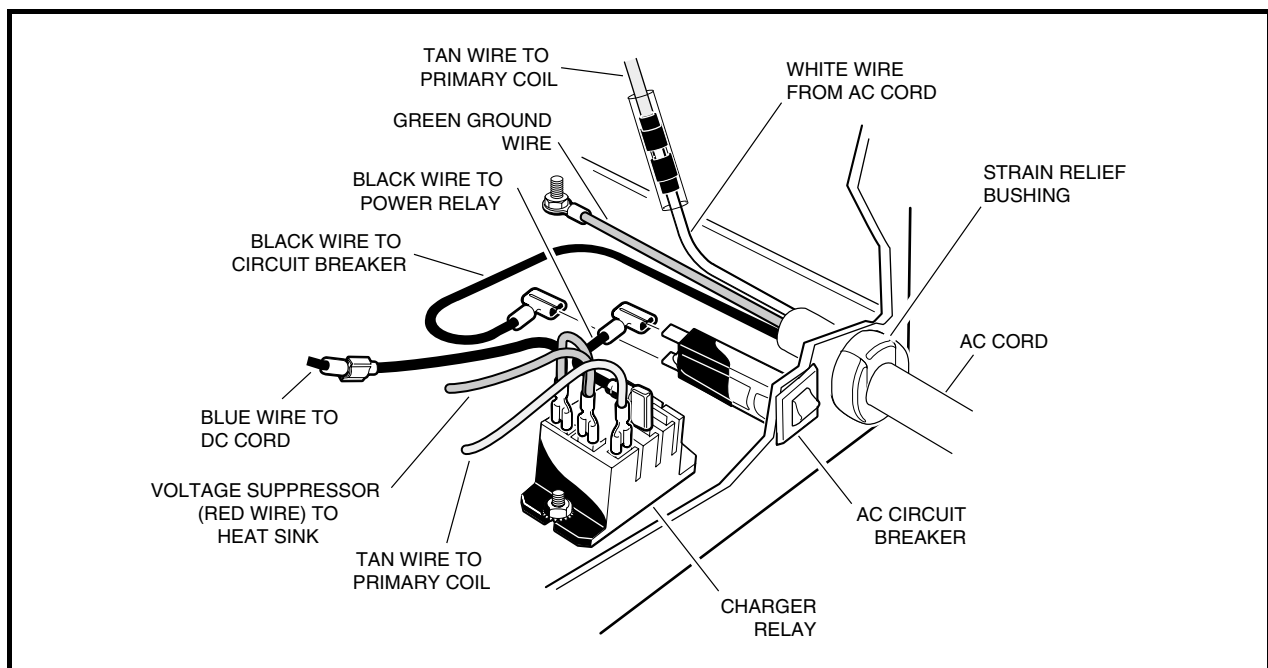

Figure 14-21 Charger Relay
3. Remove nut attaching voltage suppressor (18 gauge red wire) to heat sink (**Figure 14-21, Page 14-24**).
4. Disconnect blue wire to DC cord at quick disconnect terminal (**Figure 14-21, Page 14-24**).
5. Disconnect voltage suppressor from charger relay (**Figure 14-21, Page 14-24**).
- THE CHARGER RELAY BLADE CONNECTOR IS LOCATED OFF-CENTER WITHIN THE RELAY HOUSING. WHEN CONNECTING VOLTAGE SUPPRESSOR SLIP-ON CONNECTOR TO RELAY BLADE CONNECTOR, MAKE SURE SLIP-ON CONNECTOR IS POSITIONED SO THAT FLAT SIDE OF CONNECTOR IS CLOSEST TO RELAY HOUSING. **SEE FIGURE 14-21, PAGE 14-24.**
3. Disconnect the red, blue, black, and primary coil wires from the relay (**Figure 14-21, Page 14-24**).
4. Remove the two nuts and lock washers attaching relay to charger base (**Figure 14-21, Page 14-24**).
1. Install in reverse order of removal. Connect wires as shown in **Figure 14-21, Page 14-24**. Tighten nut connecting relay to charger base to 18 in.lb (2.0 N-m).
3. Disconnect the two black wires attached to circuit breaker (**Figure 14-21, Page 14-24**).
4. With a pair of pliers, squeeze in the retaining tabs on the sides of the circuit breaker and remove the circuit breaker through its mounting hole in the face of the charger (**Figure 14-21, Page 14-24**).
3. Disconnect the AC cord black wire at the circuit breaker (**Figure 14-21, Page 14-24**).
4. Disconnect the AC cord white wire at the primary coil tan wire (**Figure 14-21, Page 14-24**).
5. Disconnect the AC cord green wire at the charger base (**Figure 14-21, Page 14-24**).
1. Insert the black, white, and green leads of the new AC cord into the charger through the hole in the charger face (**Figure 14-21, Page 14-24**).
2. Connect the black wire to the circuit breaker, the white wire to the primary coil, and the green wire to the charger base (**Figure 14-21, Page 14-24**). **See following NOTE.**